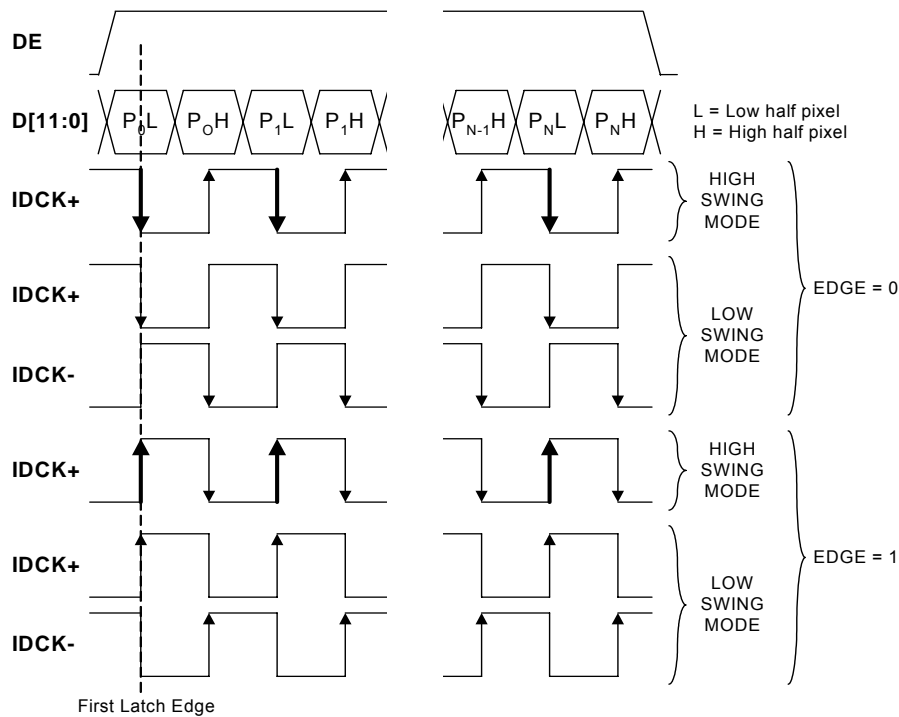

Figure 11. Logical Interface Options for 12-bit Mode
- In Figure 11, clock edges represented by arrows signify the latching edge. The dark arrows indicate the primary latch edge. The lower half of the pixel (L) is latched by the primary clock edge.